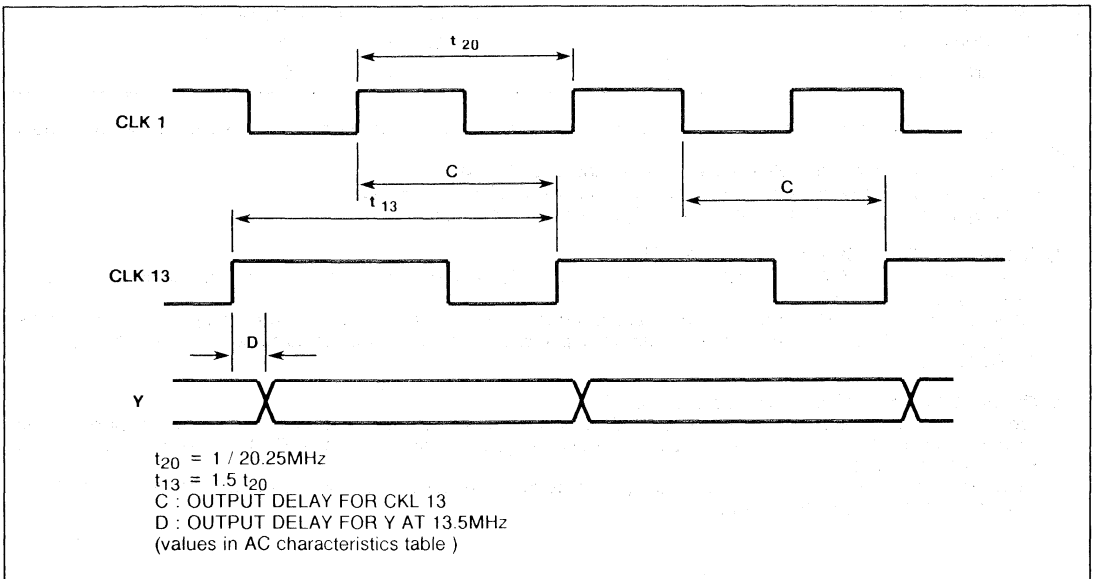

Fig.6 Output timing diagram
4. This delay is specified relative to the positive edge of CLK13. See Fig 6.
When CLK13 is generated from CLK1, the edges of CLK13 will alternately be generated from the positive and negative edge of CLK1. The delay from the active CLK1 edge to the corresponding CLK13 edge is maximum 50ns at 50pF load. See Fig 6.